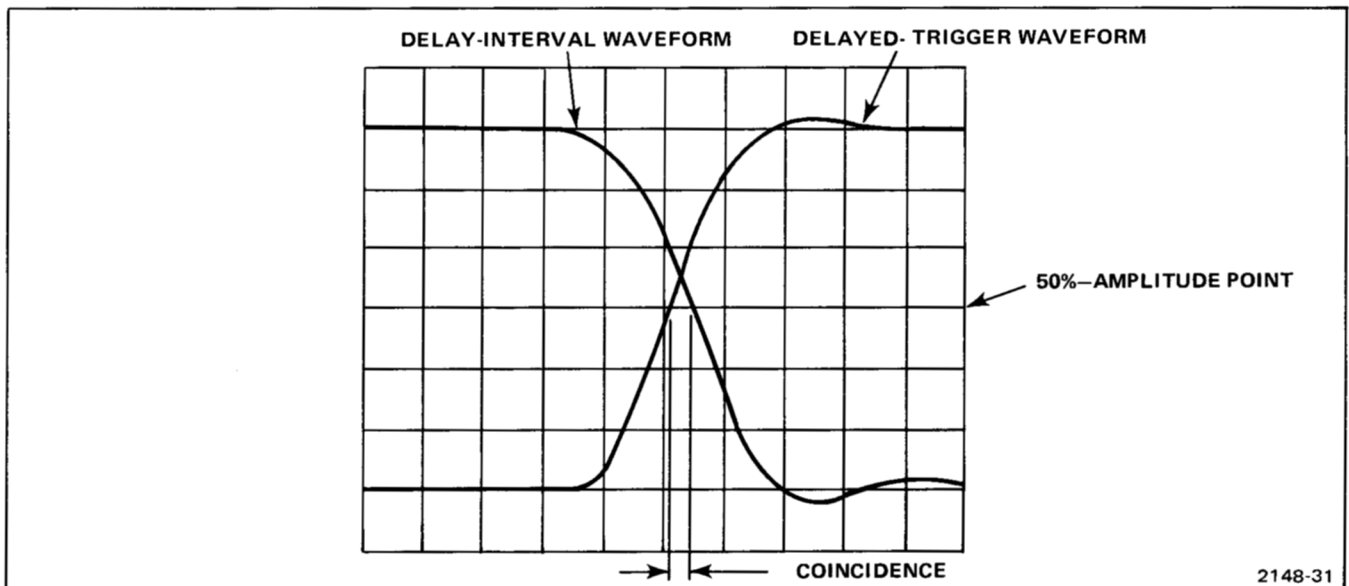

Figure 5-2. Simulated waveforms for checking Delay Interval and Delayed Trigger Coincidence.
- ✓ g. CHECK—Display for not more than 1 division between the rising portion of the Delayed Trigger waveform and the falling portion of the Delay Interval waveform, as measured at the 50% amplitude points (rising edge of Delayed Trigger waveform is coincident with the falling edge of the Delay Interval waveform within 2 nanoseconds). See Figure 5-2.